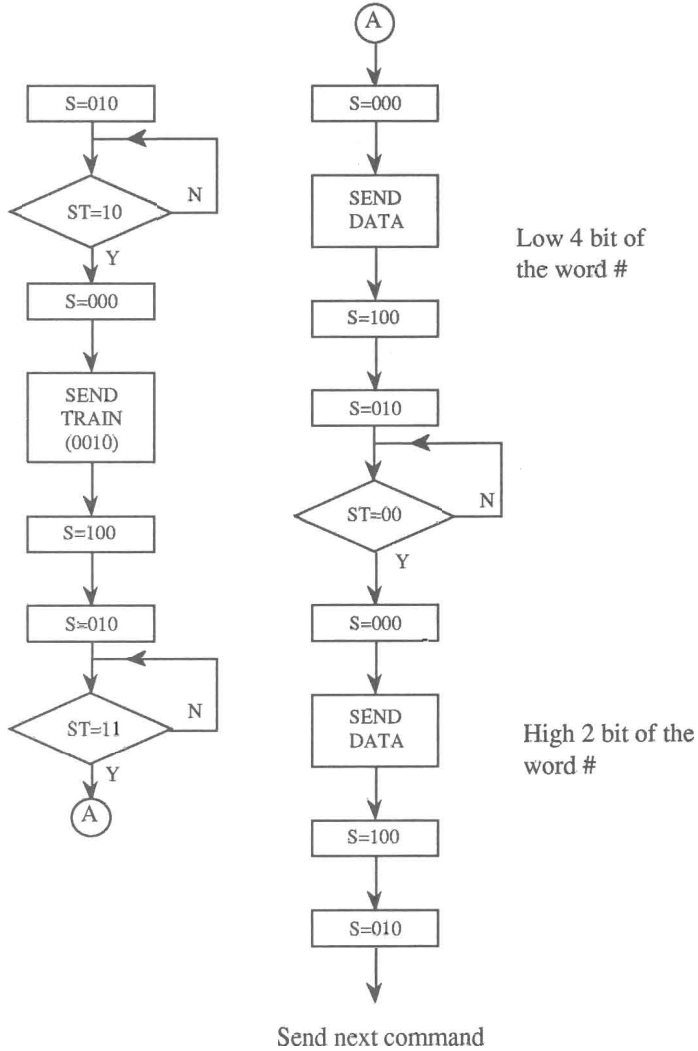

Fig 3. Control flow of the CPU mode for training.
If the number of the pattern is valid and WAIT pin is "H", HM2006 will begin its training process for the corresponding word. If WAIT is "L", HM2006 will skip the training process. After the training process, the operation state will change back to (10) and wait for next command. Fig 3 shows the control flow of the training process.